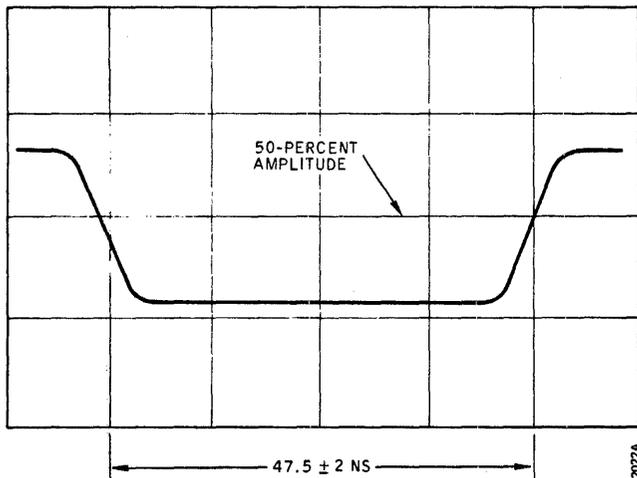

Figure 3-25. Window Width Adjustment Waveform (T80)
11. Adjust the scope controls to display the second negative-going pulse in the Channel 1 waveform. See Figure 3-25. Move heads into the data area then center Channel 1 vertically so that a horizontal graticule line crosses through the pulse at its 50-percent amplitude points.